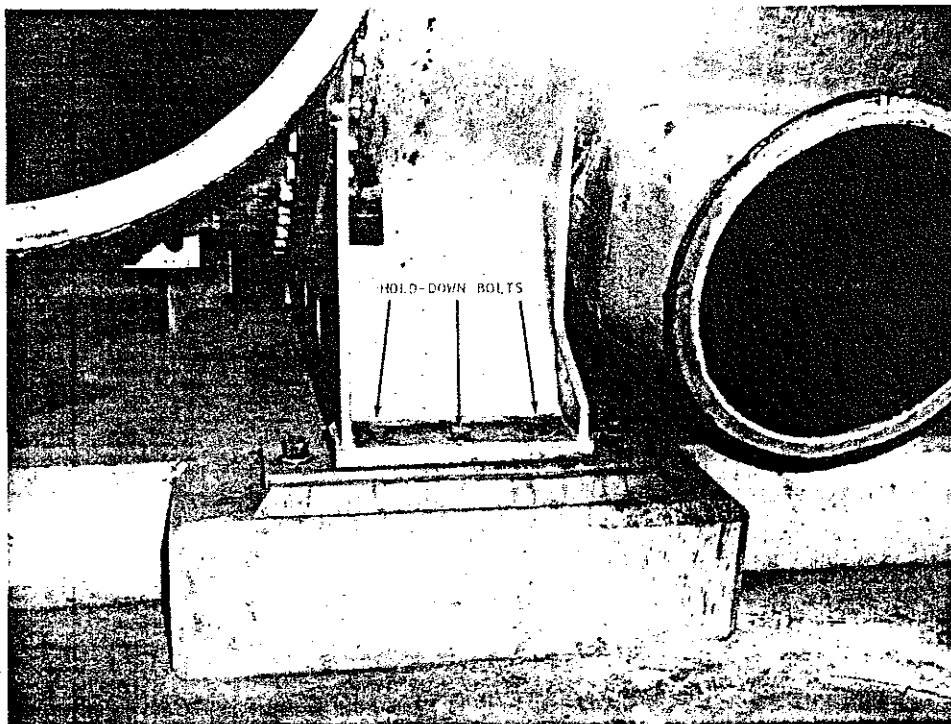

FIG. 10. HOLD-DOWN BOLTS
- o. Remove six compressor hold-down bolts from base of compressor, three on each side (see Figure 10).